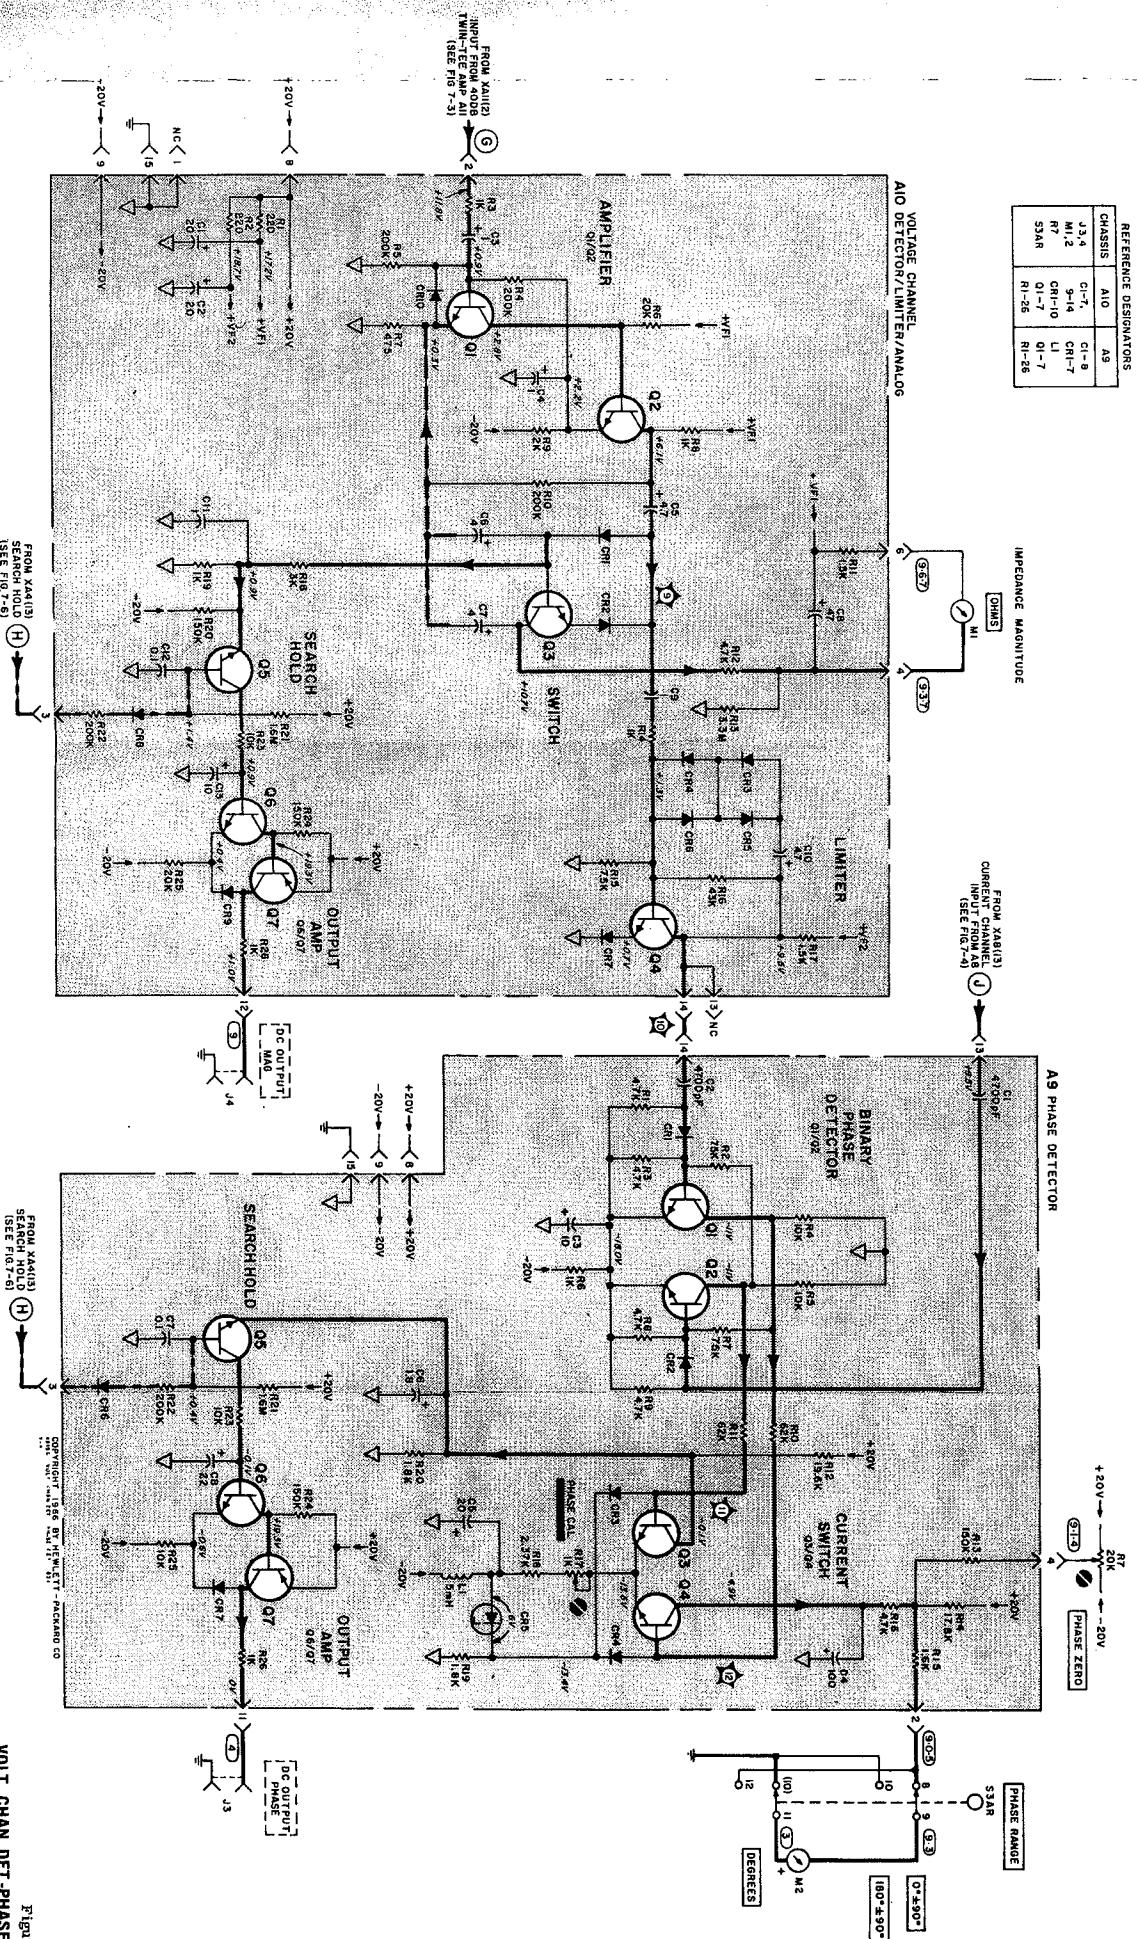

Figure 7-5
TO XA(13) (SEE FIG. 7-5)
(H) TO XA(13) & XA(13) (SEE FIG. 7-5)